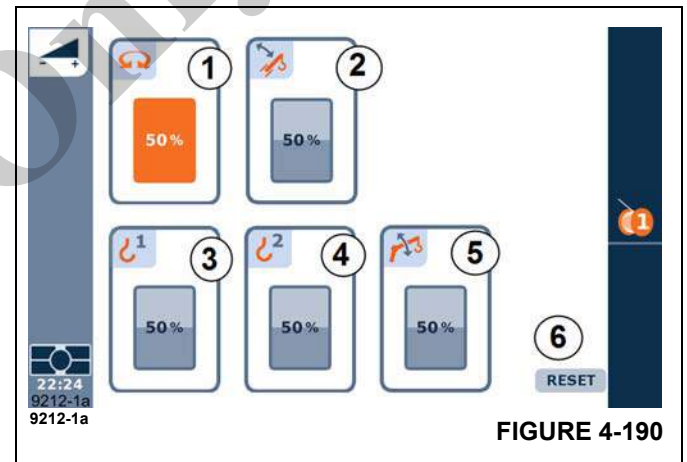

FIGURE 4-190
The values below the symbols (1 to 5), (Figure 4-190) indicate the currently set power unit speeds, and these indicators on the screen can be used to alter the power unit speeds.
The symbol (4), (Figure 4-190) is only active when the auxiliary hoist is installed.
The symbol (6), (Figure 4-190) is a command button for resetting all the power unit speeds to their default value.